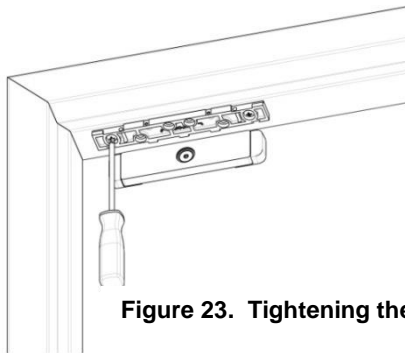

Figure 23. Tightening the Mounting Screws
5. **ENSURE** that the mounting bracket aligns with the marks, and **TIGHTEN** the mounting screws (see Figure 23, “Tightening the Mounting Screws”).